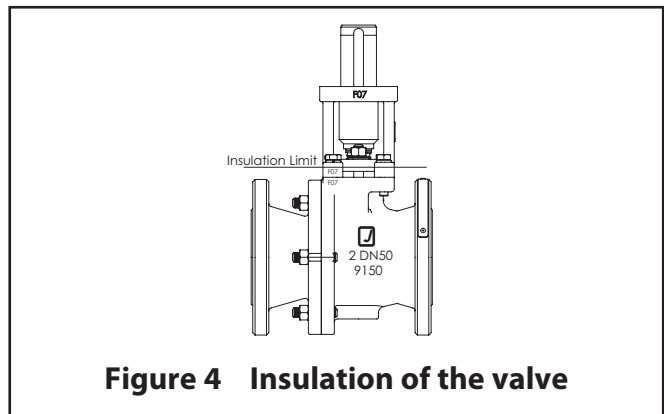

Figure 4 Insulation of the valve
*Jamesbury 7000 and 9000 series Flanged Ball Valves do NOT require insulation. If desired, the valve may be insulated; however, the insulation must not continue above the upper level of the valve (see **Figure 4**).*